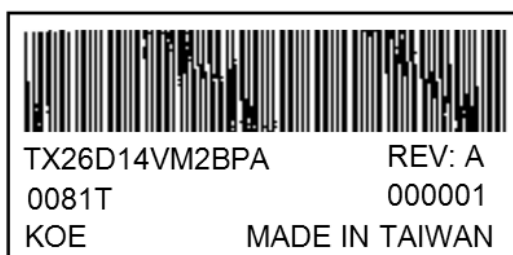

Fig. 14.1
- 4) The location of the lot mark is on the back of the display shown in Fig. 14.1.